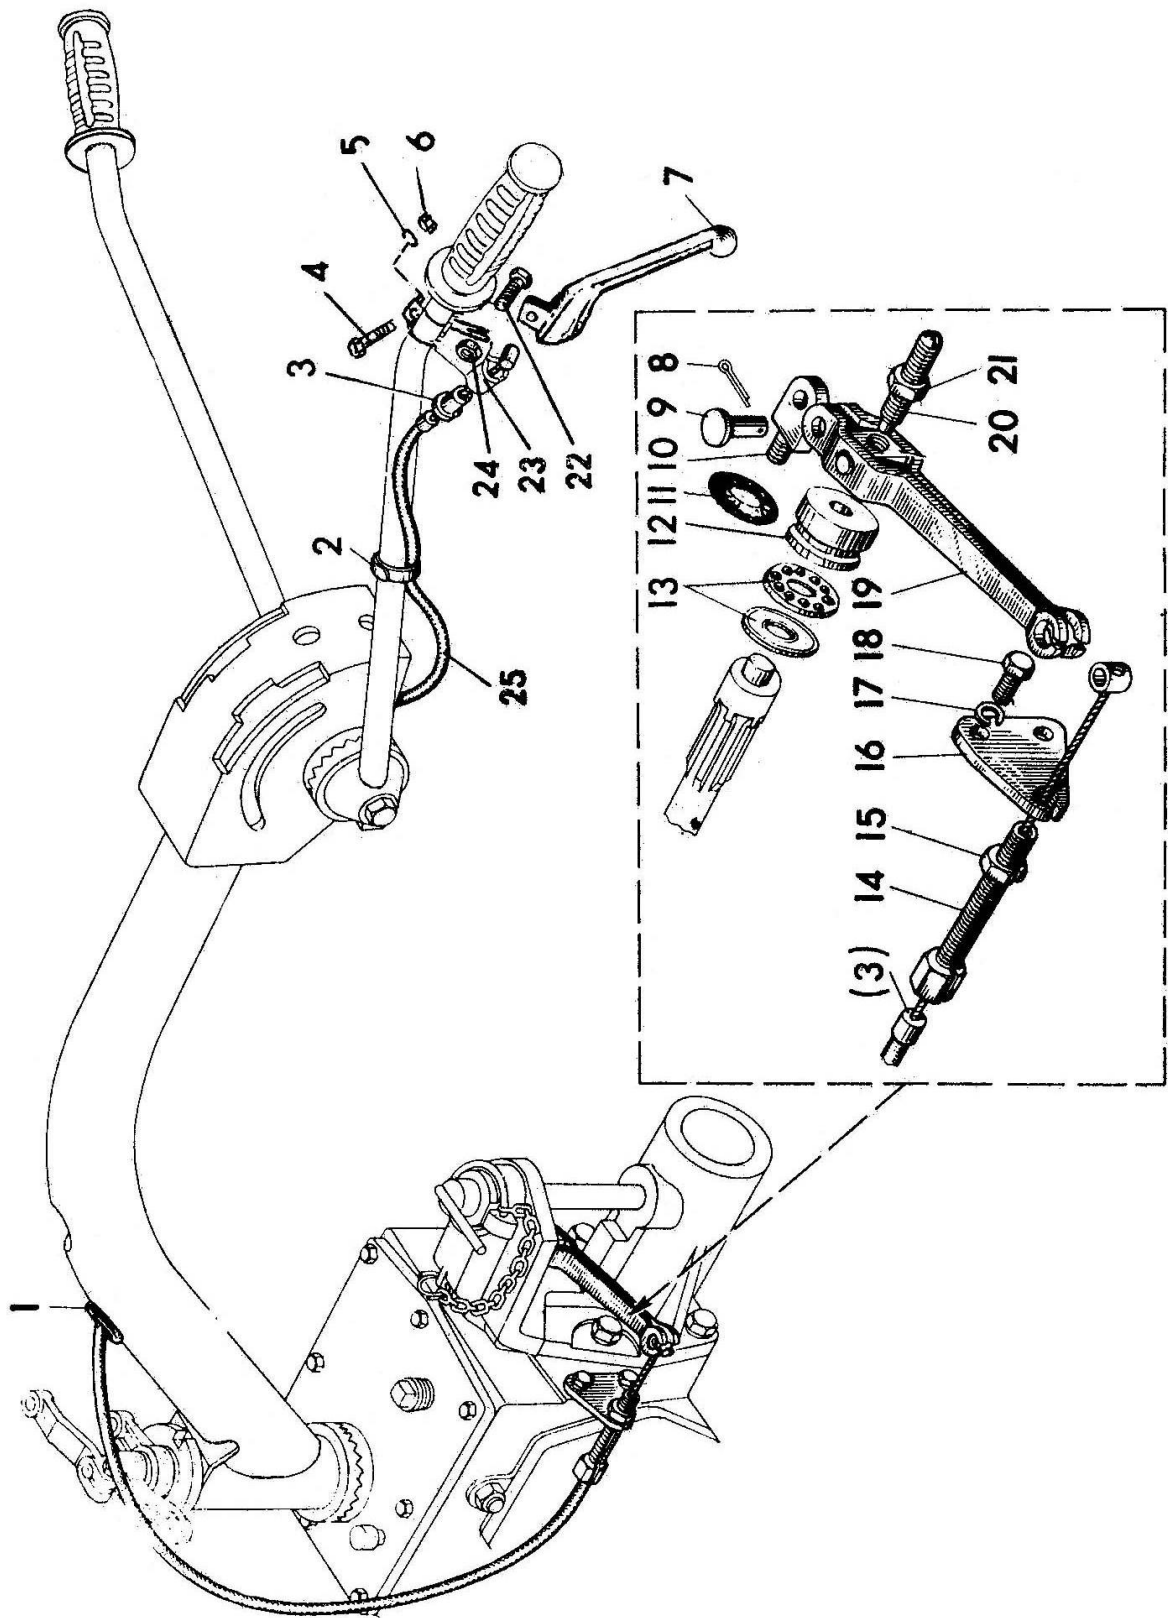

Figure 3 – Clutch control
**05-1602. Clutch control (figure 3)**